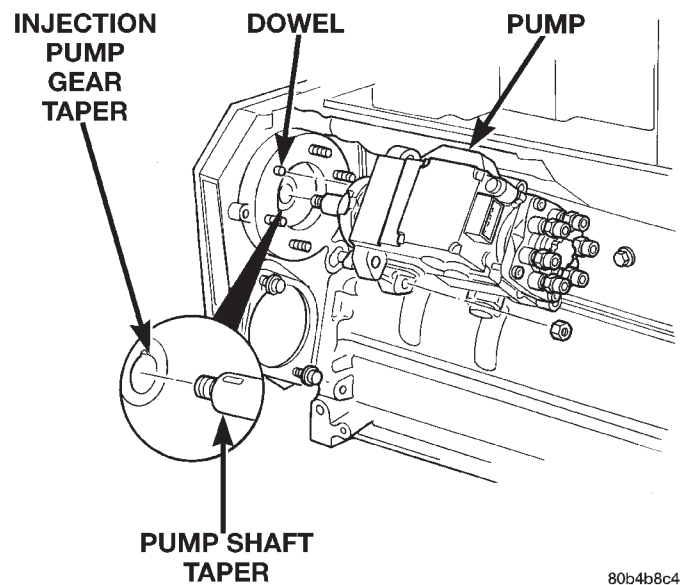

Fig. 72 Injection Pump Installation
The machined tapers on both injection pump shaft and injection pump gear (Fig. 72) must be absolutely dry, clean and free of any dirt or oil film. This will ensure proper gear-to-shaft tightening.
(5) Clean pump gear and pump shaft at machined tapers (Fig. 72) with an evaporative type cleaner such as brake cleaner.
(7) Position pump assembly to mounting flange on gear cover while aligning injection pump shaft through back of injection pump gear. When installing pump, dowel (Fig. 72) on mounting flange must align to hole in front of pump.
(8) After pump is positioned flat to mounting flange, install four pump mounting nuts and tighten finger tight only. Do not attempt a final tightening at this time. **Do not attempt to tighten (pull) pump to gear cover using mounting nuts. Damage to pump or gear cover may occur. The pump must be positioned flat to its mounting flange before attempting to tighten mounting nuts.**
(9) To prevent damage or cracking of components, tighten nuts/bolts in the following sequence: